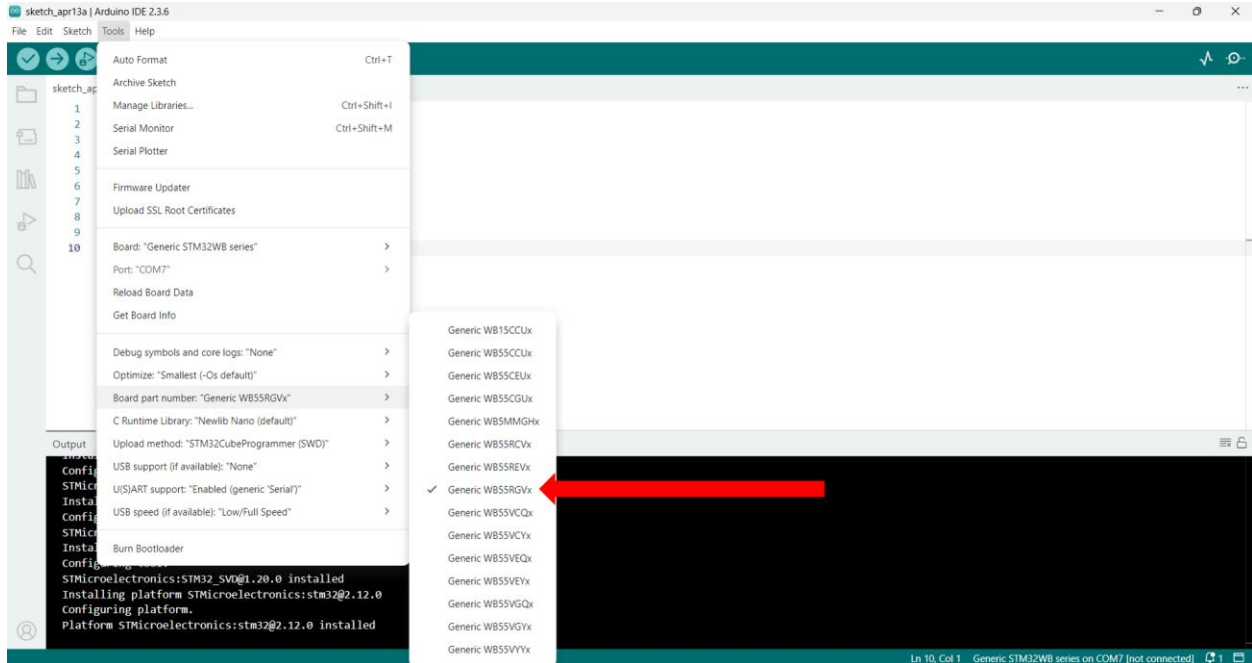

Figure 14
9. Go to Board part number -> choose Generic WB55RGVx, as shown in Figure 14.